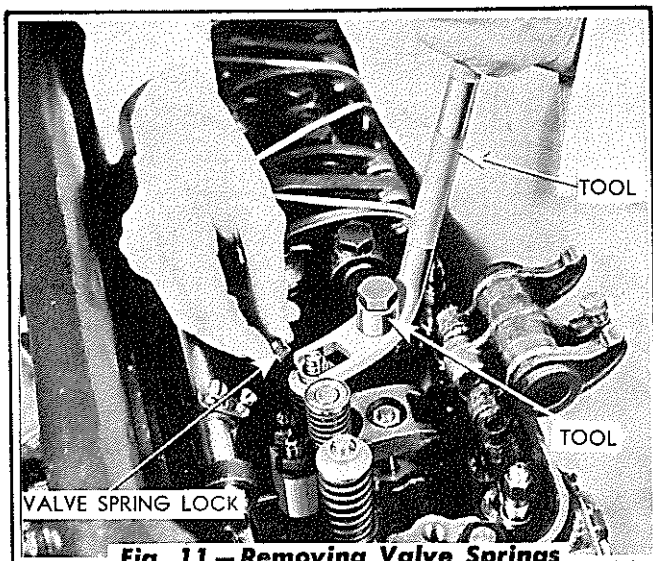

Fig. 11 — Removing Valve Springs
4. Insert one of the bracket bolts through the valve lifter bushing and the valve spring compressor tool as shown in Fig. 11, and insert the bolt into the tapped hole of the cylinder head nearest the valve spring to be removed.